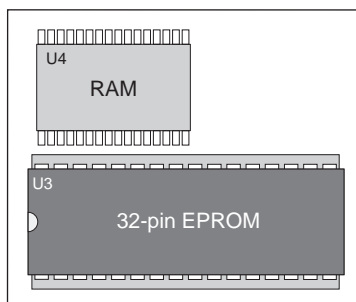

Figure 2-3. Installation of 32-pin EPROM
4. If using the CM7110 from the Evaluation Kit, make sure the CM7110 has the special 32-pin EPROM (Z-World part number 680-295x) installed at U3 as shown in Figure 2-3. Custom-burned EPROM are also installed at location U3.